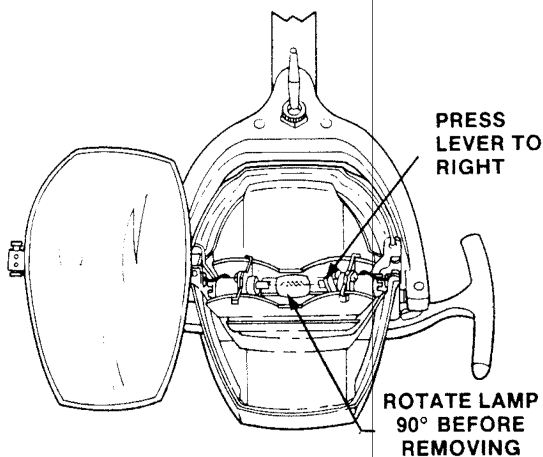

FIGURE 10—REPLACING LAMP
3.03 Replacing Lamp (Figure 10)—To replace the lamp, the following procedure should be performed: